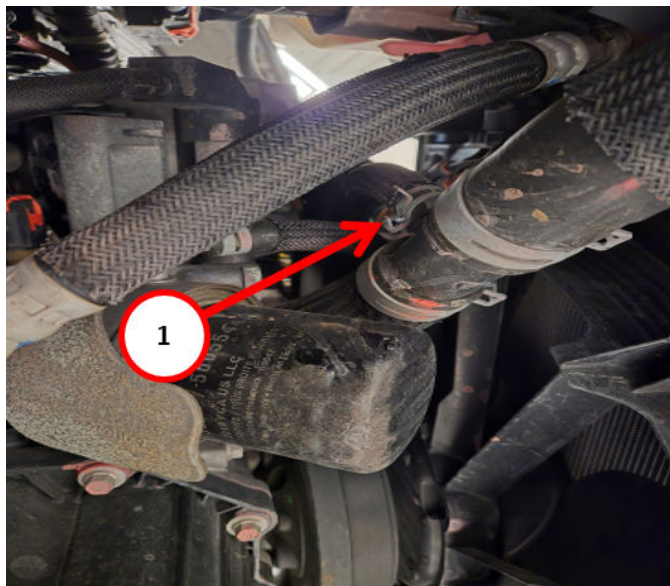

Fig. 2
4. Remove the hose clamp from the coolant hose Fig. 2.
8. Move the coolant hose clamp into its installed position on the coolant hose and tighten Fig. 2.